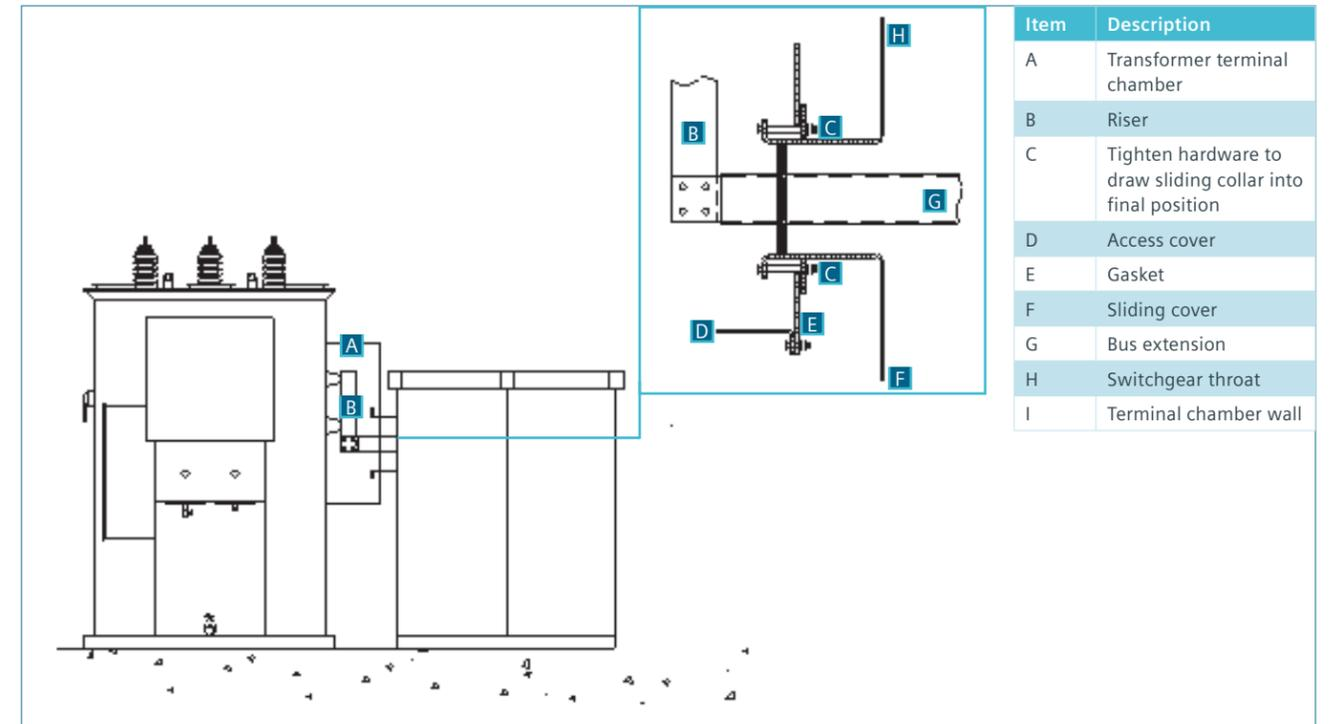

Figure 11: Throat connection
When a transformer is connected to switchgear using a throat connection, the switchgear should be positioned next to the transformer as shown in Figure 11: Throat connection on page 27. It is very desirable that the switchgear be placed in position before positioning the transformer.
- 3e. Join the aisle roof panels to the equipment roof panels. Refer to Figure 11 of Figure 13: Instructions for factory-assembled-aisle type SGM-SG on pages 29-35. Verify sealing strip is in place prior to joining panels.
- 4g. Join the aisle roof panels to the equipment roof panels. Refer to Figure 11 of Figure 13: Instructions for factory-assembled-aisle type SGM-SG on pages 29-35. Verify sealing strip is in place prior to joining panels.